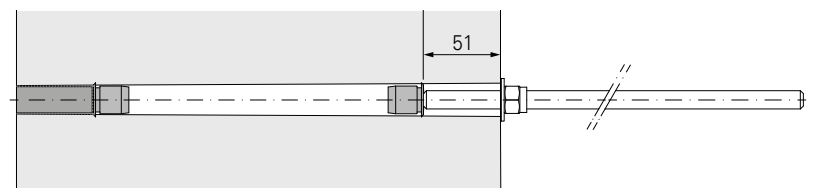

Fig. 21b
5. Push the plug (**71a / 71b**) into the larger side of the tie hole with the threaded rod against the flat surface of the plug. (Fig. 21b)